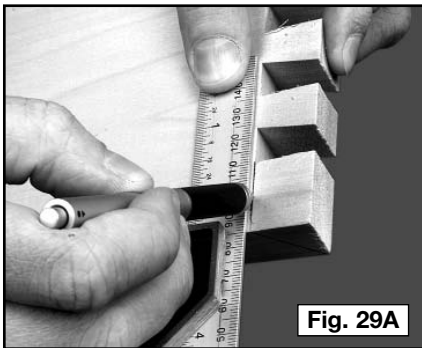

Fig. 29A
- Step 1** - On the inside surface, use a square and pencil to draw a line from the base of the tails to the edge where the miter will be cut (Fig. 29A).